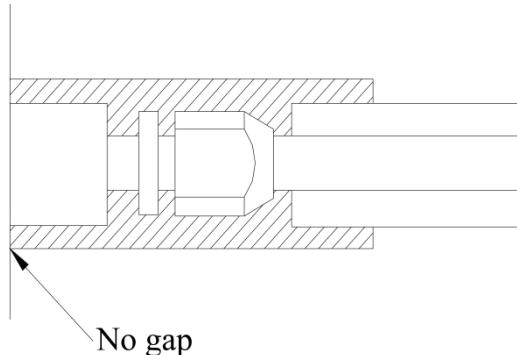

Fig.19
- The joints of the indoor unit should be wrapped with the insulating material and no gas is allowed on the joint of the indoor unit, as shown in Fig.19.